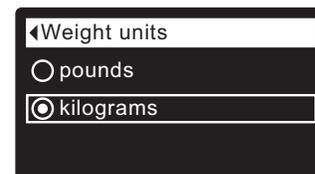

FIG. 59
5. Press the SELECT (O) button to display the Weight units menu (See Figure 59).
6. If the desired weight unit already has a dot next to it (See Figure 59), go to Step 7. Otherwise, press the DOWN (▼) or UP (▲) buttons to scroll to the other weight unit, then press SELECT (O) to choose it.
7. Press the SELECT (O) button. The display will go back to the User preferences menu.